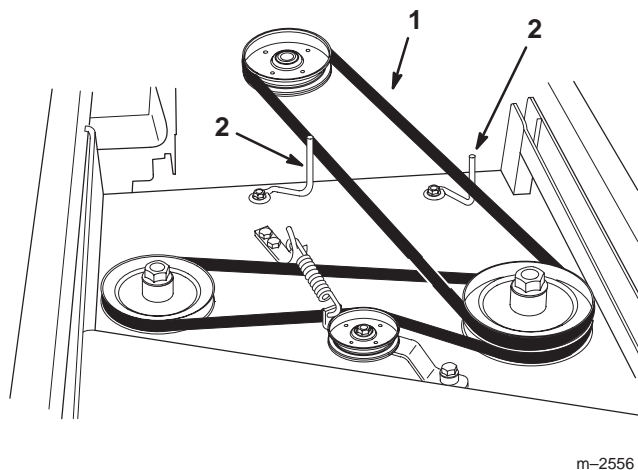

Figure 9
8. Check the position of the belt guides. The guides should be positioned about 3 mm (1/8 inch) away from the belt (Fig. 9). Adjust the belt guides as necessary.